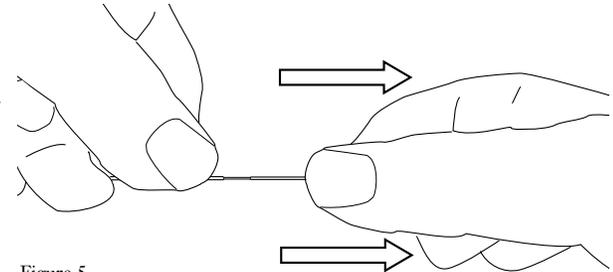

Figure 5
- remove the tool and pull the buffer off the fibers by hand (Figure 5)...